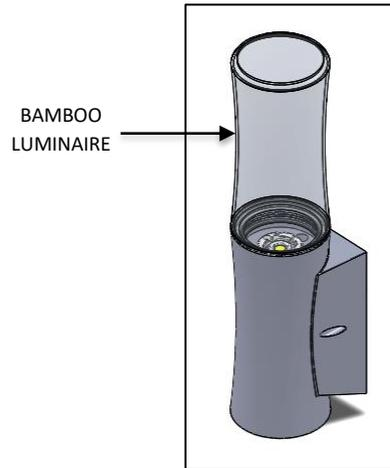

FIG.3 - BAMBOO LUMINAIRE (PRE-ASSEMBLED)
1. BAMBOO LUMINAIRE (Pre-assembled as shown in FIG. 3)